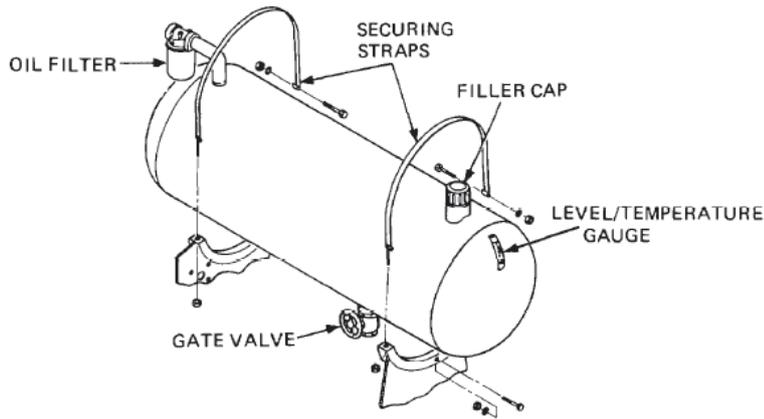

Figure 46 Hydraulic Oil Reservoir
- h. Remove the bolt, nut and washer from the bracket at the base of the reservoir on the right-hand side of the truck (Figure 46).